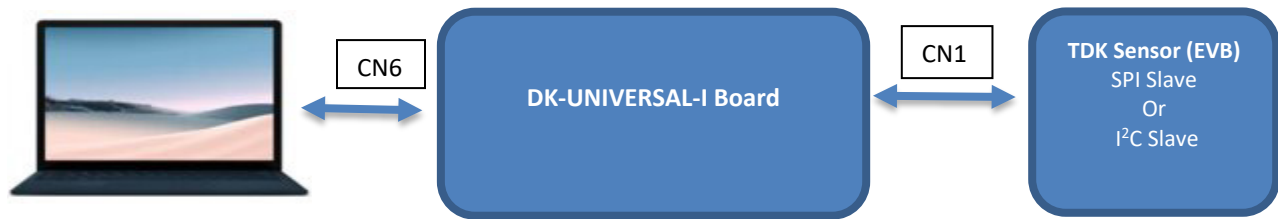

Figure 2. Block diagram
2. Connect the FTDI USB (CN6) to PC and open MotionLink for quick testing, as shown in the block diagram in Figure 2.